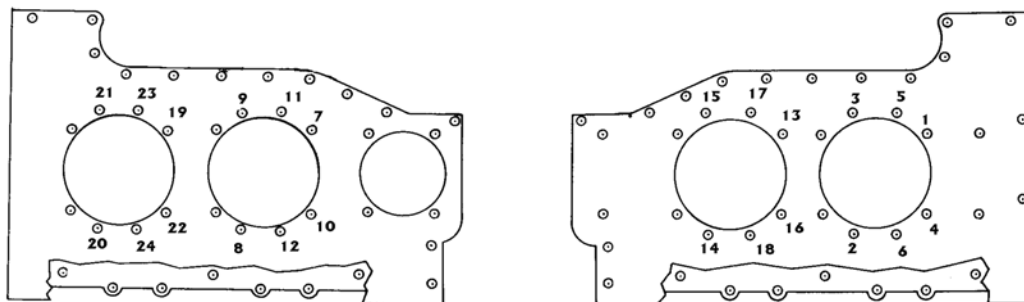

Figure 1. Initial Cylinder Installation Torquing
6. Initially torque the 7/16-20 cylinder deck stud nuts to 245–255 inch lbs. in the numerical sequence shown in Figure 1, “Initial Cylinder Installation Torquing”.